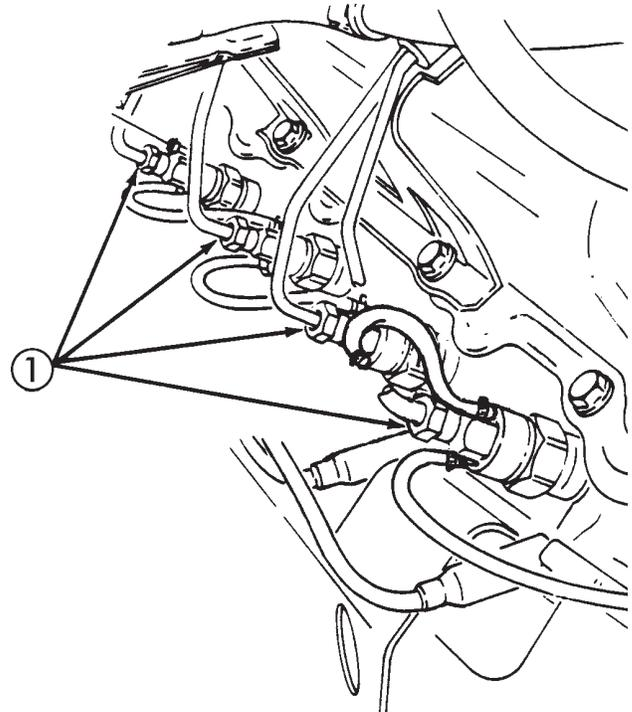

Figure 3-5. Fuel Injection Pump Test.
W. FUEL INJECTION PUMP TEST (Figure 3-5)